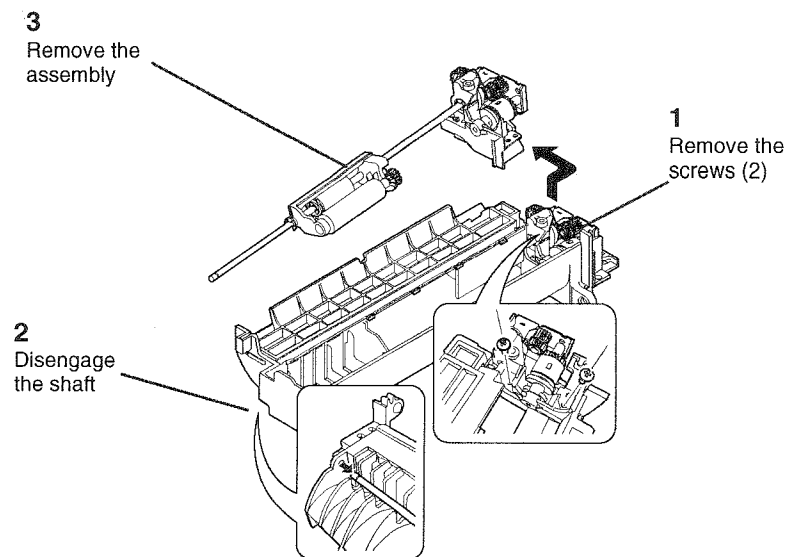

Figure 3 Removing the Feed Roll and Shaft Assembly
4. ( Figure 3): Remove the Feed Roll and Shaft Assembly